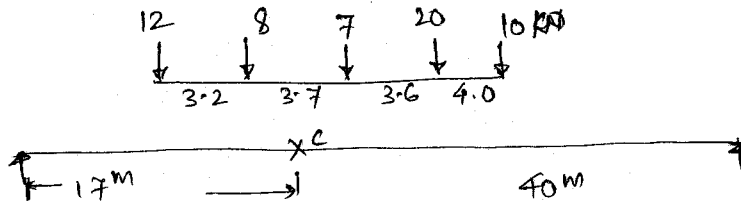

Fig.3
- 5 (a) The systems of concentrated loads shown in Fig. 3 rolls from left to right across a simply supported beam of 40 m span, the 10 kN load leading. For a section 17 m from the left hand support. Determine the maximum BM and SF. 8